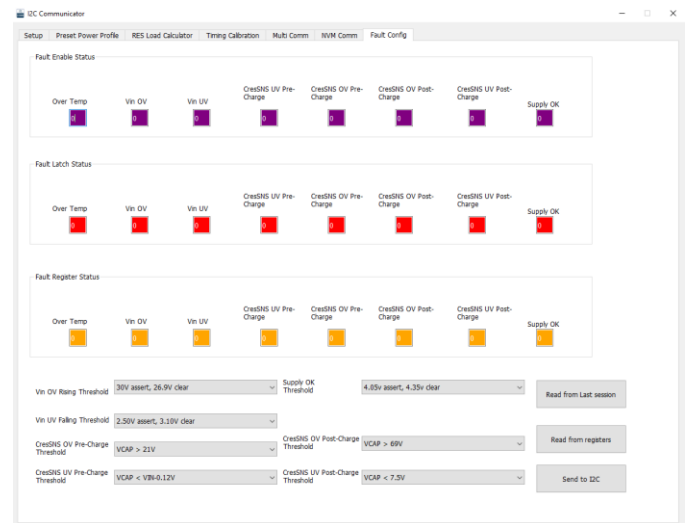

Fig.16 The Fault Config Tab from the GUI
Fig.16 shows the Fault Config Tab of the GUI. This tab allows the user to enable and monitor various fault status of the SL2001/2 IC, such as over temperature, over voltage, under voltage etc. The first row of boxes allows enabling and disabling eight different faults of the IC by changing between 0 (disable) and 1 (enable) and the boxes will change colors. Similarly, the second row allows setting the fault recovery behavior between hiccup (0) and latch (1). The hiccup mode allows the IC to self-restart the operation after waiting for 28 ms, where the latch mode requires the part to either be power down (remove Vin and Vdd) or soft reset via I2C write (Using Multi-Comm page, register address 0x15, set bit 7 "DigSoftReset" =1) before it can restart.